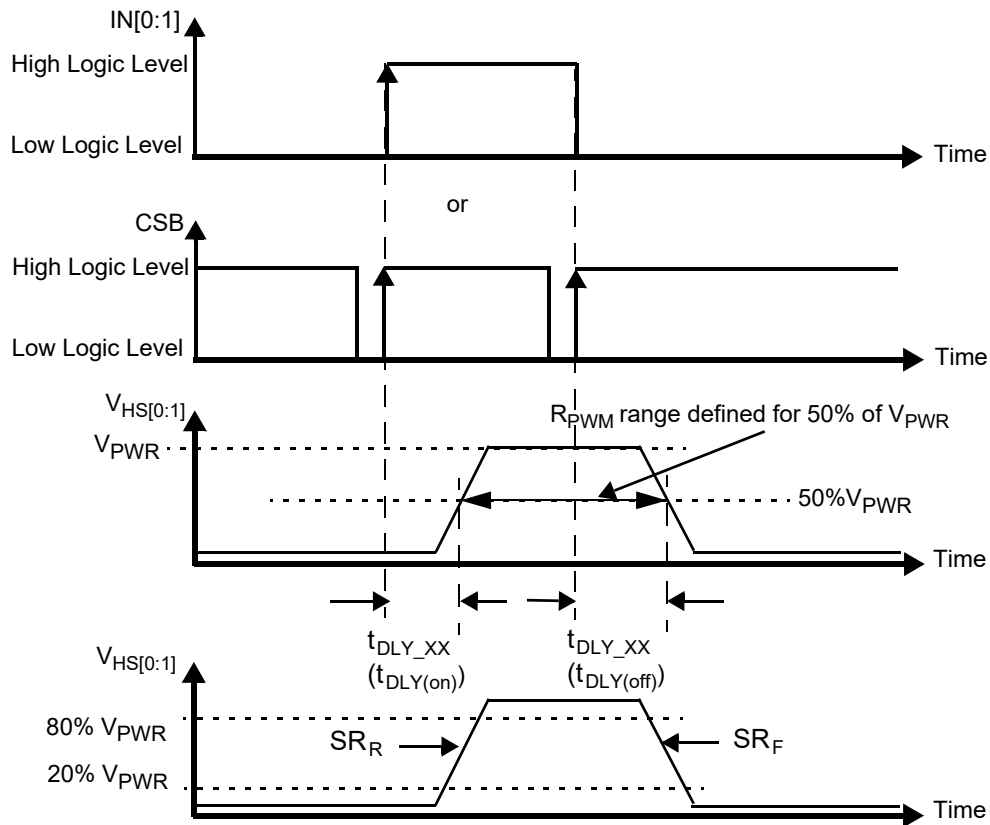
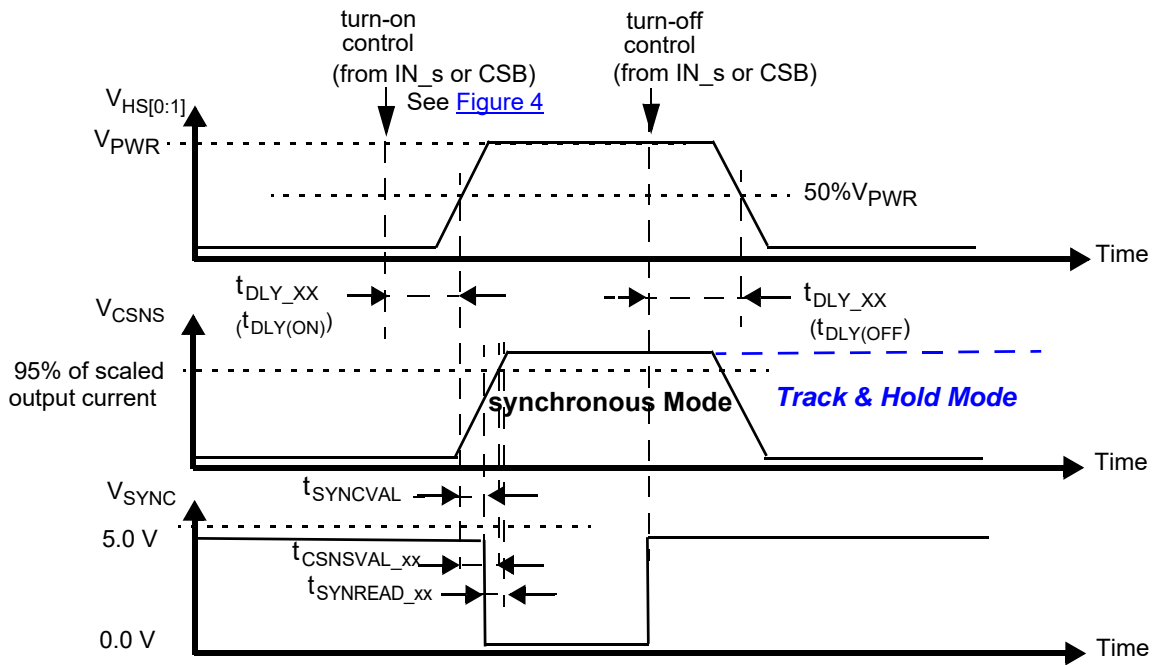

Figure 4. Output voltage slew rate and delay
Figure 9. Synchronous and Track & Hold current sensing modes: associated delay and settling times
27. Rising and Falling edge slew rates specified for a 20 % to 80 % voltage variation on a 10.0 Ω resistive load (see Figure 4).
29. Time required to switch off the channel after detection of overtemperature (OT), overcurrent (OC), SC or UV error (time measured between start of the negative edge on the FSB pin and the falling edge on the output voltage until $V(\text{HS}[0:1]) = 50\%$ of V_{PWR}).
30. Settling time ($= t_{CSNSVAL_XX}$), SYNC output signal delay ($= t_{SYNVAL_XX}$) and Read-out delay ($= t_{SYNREAD_XX}$) are defined for a stepped load current ($100\text{ mA} < I(\text{LOAD}) < I_{OCLX_A}$ FOR $\text{CSNS_RATIO_S} = 1$, AND $300\text{ mA} < I(\text{LOAD}) < I_{OCLX_A_0}$ FOR $\text{CSNS_RATIO_S} = 0$). (see Figure 9 and Output current monitoring \(CSNS\)).
To synchronize current sensing with an external process, the SYNC signal can be connected to a digital input of an external MCU. SYNC is asserted logic low when the current sense signal is accurate and ready to be read. The current sense signal on the CSNS pin has the specified accuracy $t_{SYNREAD_XX}$ seconds after the falling edge on the SYNC pin (Figure 9) and remains valid until a rising edge is generated. The rising edge that is generated by the SYNC pin at the turn-OFF instant (internal or external) may also be used to implement synchronization with the external MCU. Parameter $t_{SYNCVAL_XX}$ is defined as the time between the instant at the middle of the output-voltage rising edge ($HS[0:1] = 50\%$ of V_{PWR}), and the instant at which the voltage on the SYNC-pin drops below 0.4 V (V_{SOL}). The SYNC pins of different devices can be connected together to save micro-controller input channels. However, in this configuration, the CSNS function of only one device should be active at a time. Otherwise, the MCU does not determine the origin of the SYNC signal. The SYNC pin is open drain and requires an external pull-up resistor to V_{DD} .